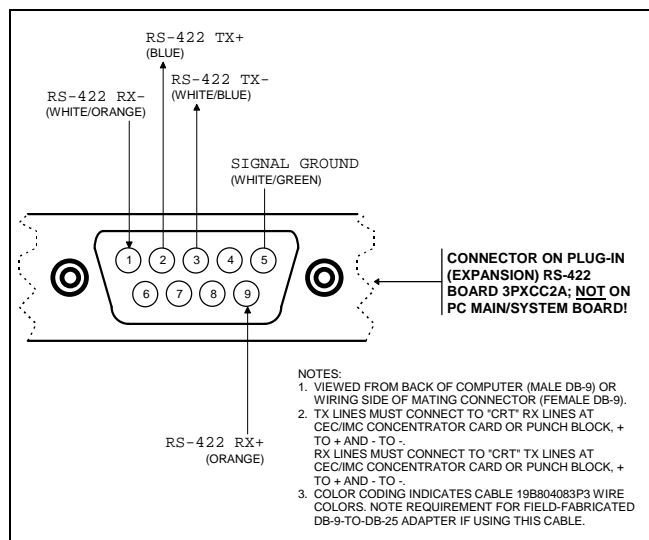

Figure 5 – Plug-In RS-422 Board DB-9 Connector Pin-Out (B&B Electronics 3PXCC2A Board)
*** If PC is equipped with plug-in RS-422 board 3PXCC2A, see Figure 5 for DB-9 connector pin numbers.